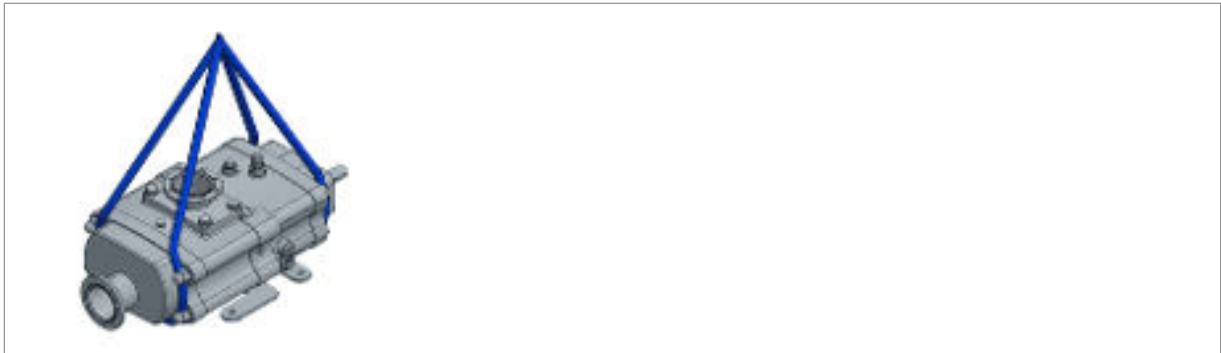
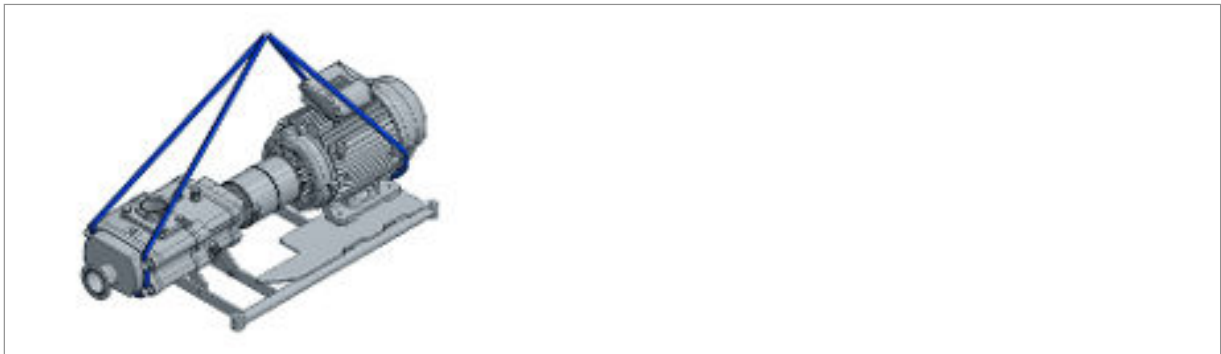

Fig. 5: Lifting the pump
Fig. 6: Lift the pump assembly
1. ➤ Fasten cables, straps or multi-point hangers in accordance with Fig. 5 or Fig. 6.